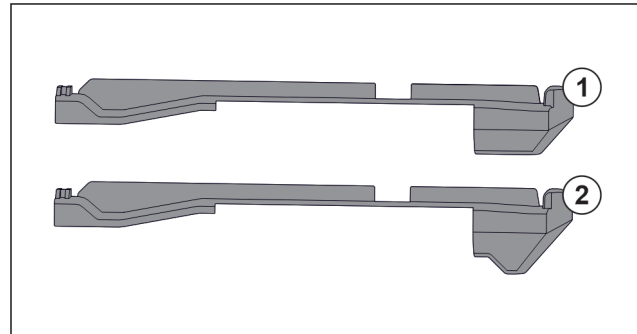

Fig. 108 Comparing attachments
There are two different attachments in the appliance. The attachment above the lowest drawer Fig. 108 (2) has a three-cornered edge. All other attachments Fig. 108 (1) have a straight edge.
- ▶ Fit attachment Fig. 108 (2) with the three-cornered edge above the lowest drawer.
- ▶ Fit attachment Fig. 108 (1) with straight edge in all other positions.